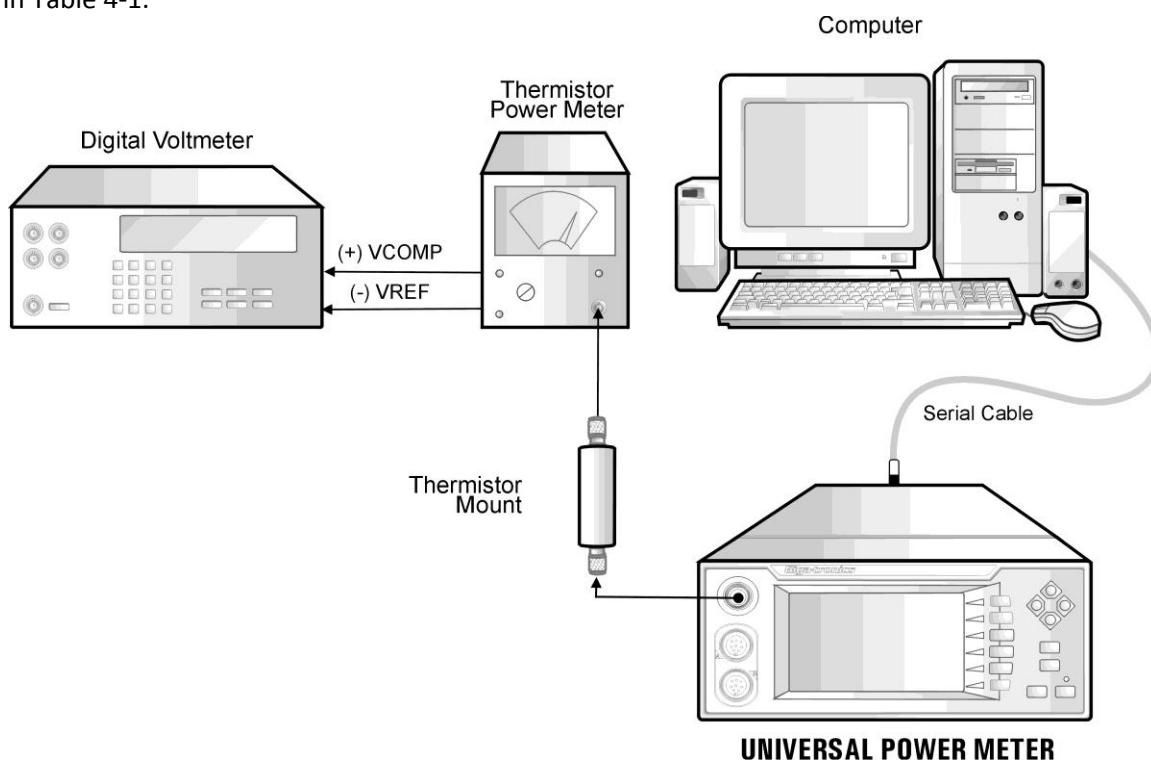

Figure 4-1: Calibrator Output Test Setup
3. Connect the Thermistor Mount to the 8650B Calibrator output "N" type connector as show in Figure 4-1. Allow a 15-minute thermal equilibrium period between the Thermistor and Calibrator connector to minimize temperature differences.